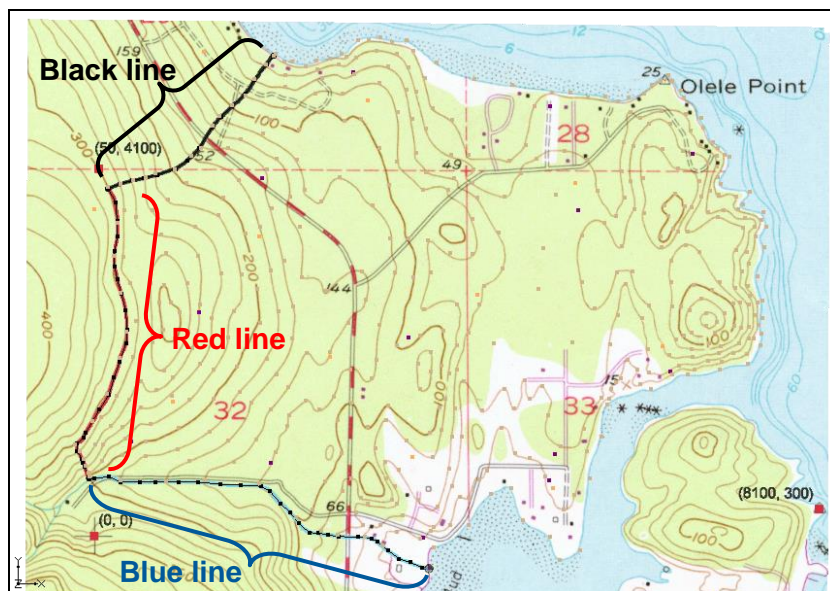

Figure 1 First three boundary arcs
2. Using the **Create Arc**  tool, click out a series of vertices to create an arc for the black line, double-clicking to end the arc (black line in Figure 1).
3. Click out a series of vertices to create an arc for the red line, pressing *Enter* to end the arc (red line in Figure 1). Make sure the arcs are connected by starting precisely at the ending point of the previous arc.
4. Click out a series of vertices to create an arc for the blue river line (blue line in Figure 1). Again, make sure the arcs are connected
1. Using the **Select Arcs**  tool, hold down the *Shift* key and select the coastline arc and the stream arc (the blue one in Figure 1, above).